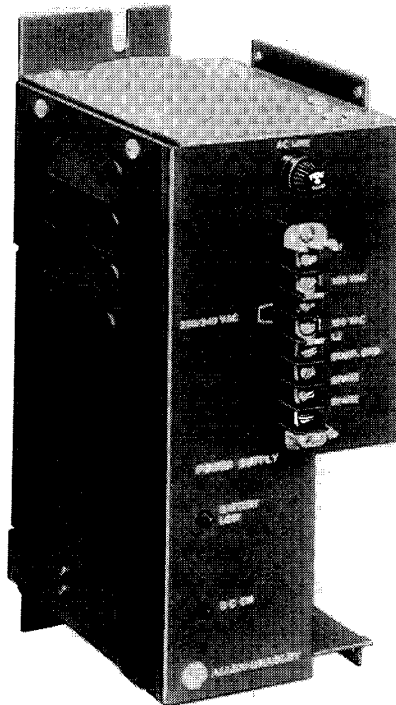

Figure 2.6 — System Power Supply
**2.4 System Power Supply** — The required power source for the Mini-PLC-2 programmable controller is the System Power Supply (Cat. No. 1771-P1). (Refer to Figure 2.6.) It powers the logic circuitry of both Mini-Processor and I/O modules, powers the Mini-Processor memory, and provides battery backup to maintain memory contents during AC power loss, removal or replacement of the Supply, or controller shutdown.